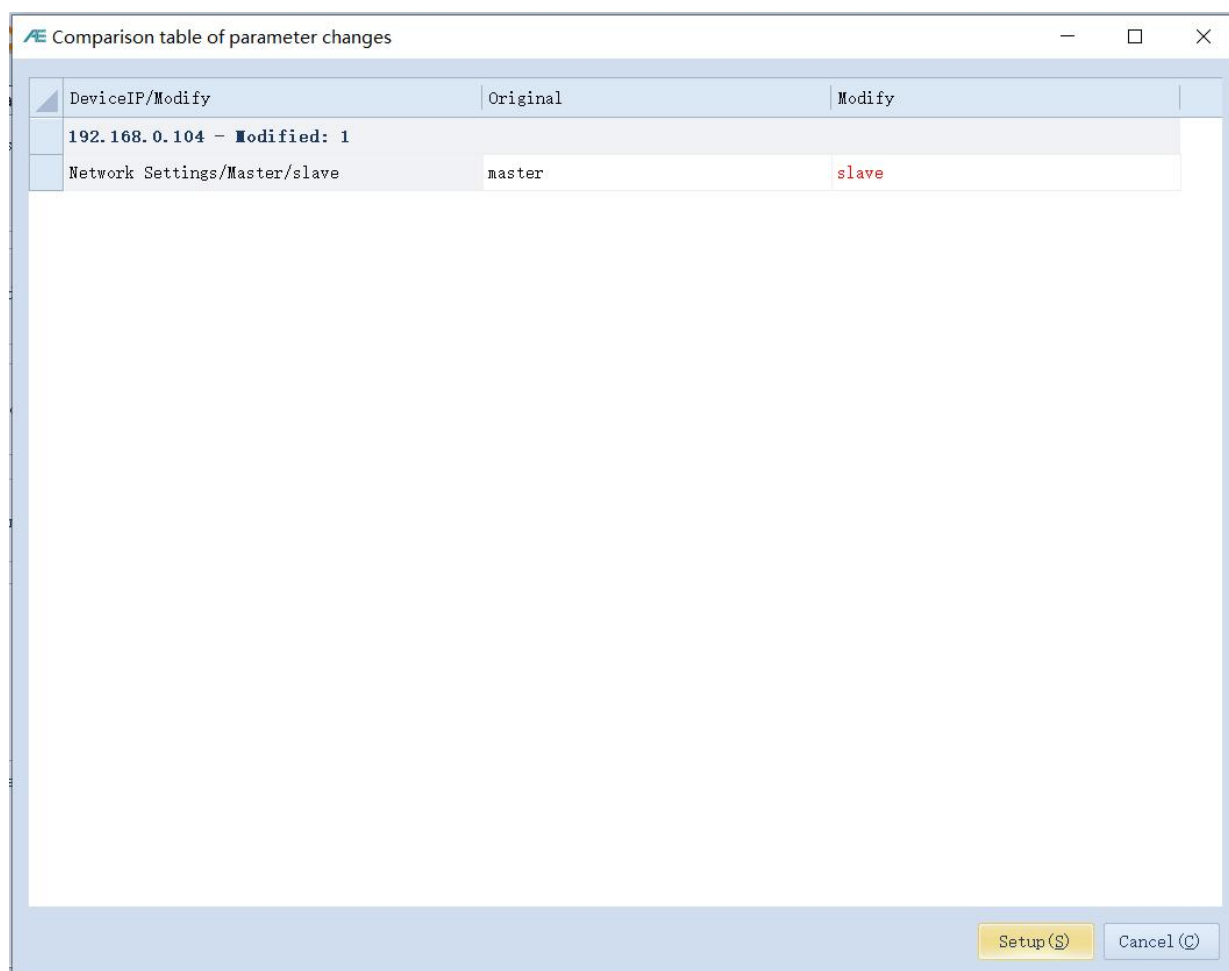

Fig. 4-9 RAEM1 Configuration Software **Modify** Confirmation window.
⑦ In the **Network Settings** page, the **Modify** button is only to modify the current selected RAEM1's configurations, for example Ethernet IP address, and Master/Slave settings. After changing the values in those frames, click **Modify** buttons to pop out the window as Figure 4-9. Click the **Setup** button to send the device. No need to click **Set Device** button after.